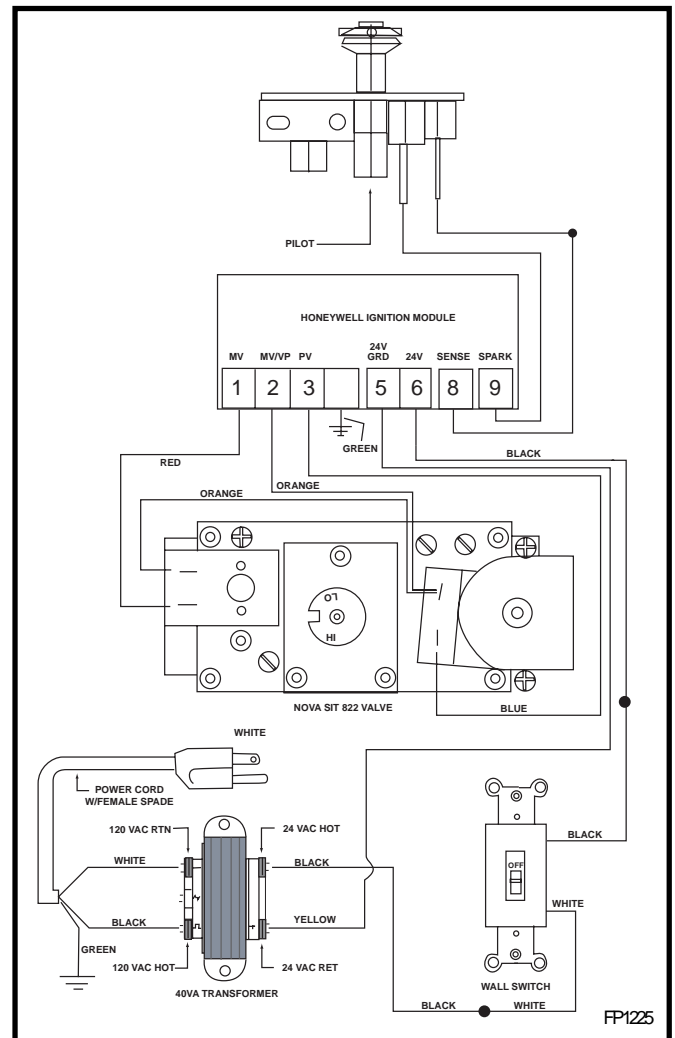

Fig. 10 Honeywell ignition module.
2. Attach the wire to the **ON/OFF** switch and install the switch into the receptacle box. (Fig. 10)